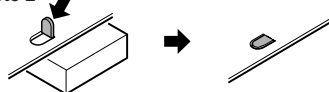

Figure 8
If the vehicle is equipped with a factory-installed radio, install the main unit with the parts and screws marked (*). (Figure 8)
2. Secure the mounting brackets to the chassis as shown in Figure 8. Holes are pre-tapped for TOYOTA and NISSAN vehicles; modification, such as drilling new holes, of the mounting brackets may be required for other models.